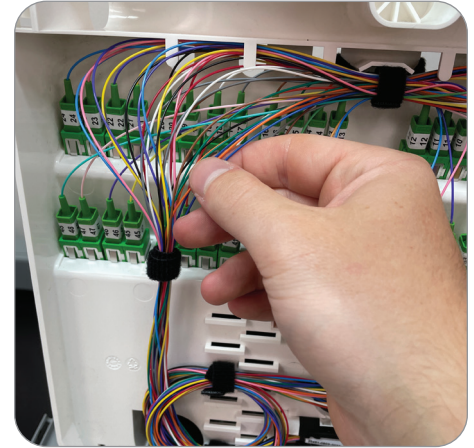

Figure 66
3. Ensure the connectorized pigtails have the proper slack and adjust routing, if needed, to prevent potential macrobending issues (Figure 66).